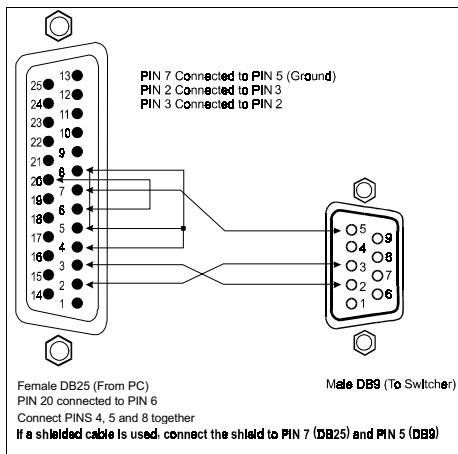

Figure 14: Connecting a PC (with a 25-pin connector) without a Null-modem Adapter
1. Connect the PC's DB25 COM port to the RS-232 IN DB9 port on the **VS-1616V** unit, as Figure 14 illustrates: